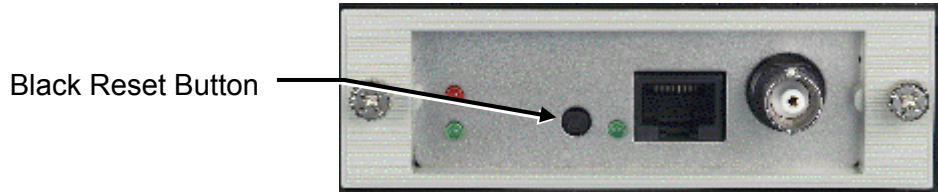

Figure 2.- Rear View of Printer Showing Network Card.
- Printer 2 3. Press black reset button on back of printer to print a Network Configuration Page for Printer 2. Refer to Figure 2.
Refer to Figure 2.